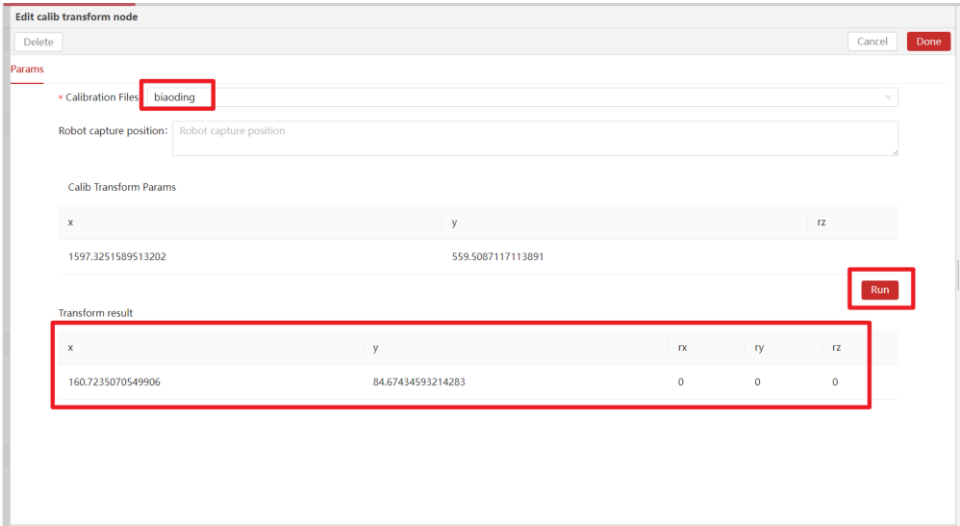
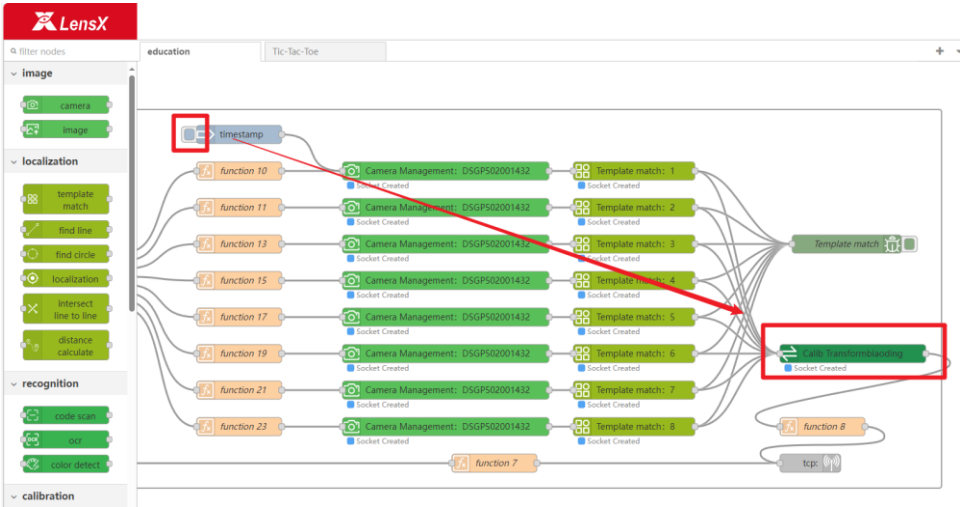

Figure 4.2-6
Figure 4.2-7
7) As shown in Figure 4.2-7, click the [Timestamp] connected to [Camera] to trigger a photo and enter the [Calibration Conversion] node. As shown in Figure 4.2-6, click Run, record the calibration conversion results, and click [Finish] to end the visual end configuration.